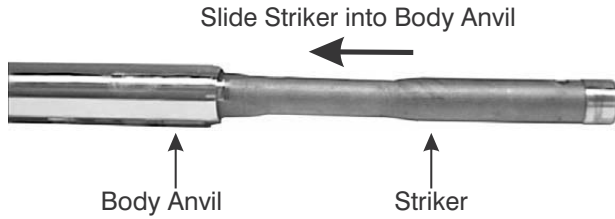

Figure 9-24. Slide Striker into Body/Anvil
1. Coat the Striker (2) with hydraulic fluid before installing it into Body/Anvil (1).
2. Refer to Figure 9-24 and slide the Striker (2) into the Body/Anvil (1). The back end of the Striker should be about 6 to 8 inches in (past the threads of the Body/Anvil).